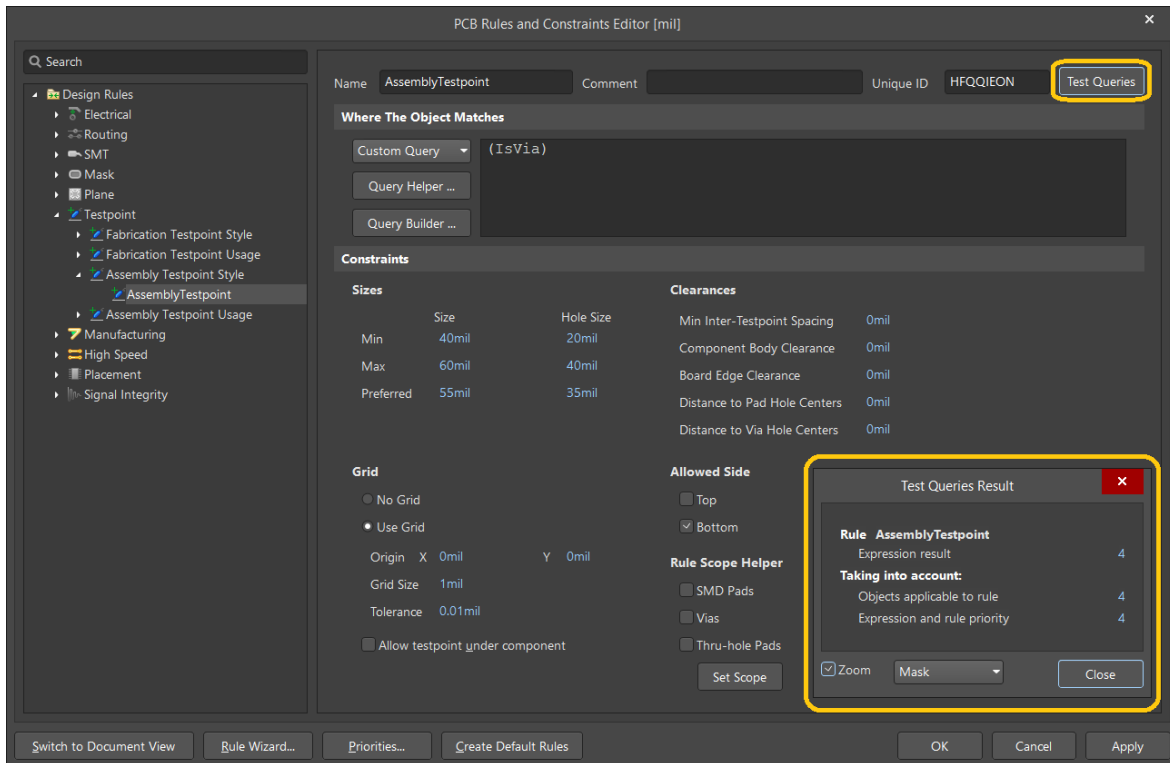

Figure 1. Assembly Testpoint Rule
6. Click the **Test Queries** button to see the objects the query applies to, Figure 1. Note that objects in the *Test Queries Results* dialog will be further constrained by the clearance settings, but this rule will still not be applied to these objects until assigning as Testpoints in the *Testpoint Manager*.